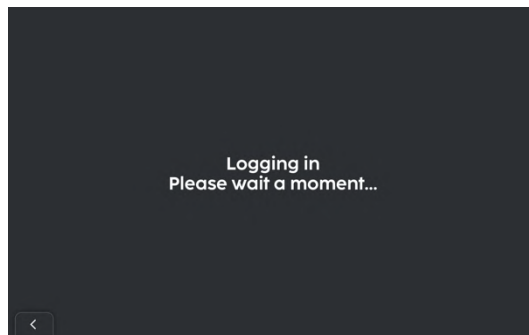

FIGURE 9-8
4. The machine will reset when the correct PIN has been entered (**Fig. 9-8**).